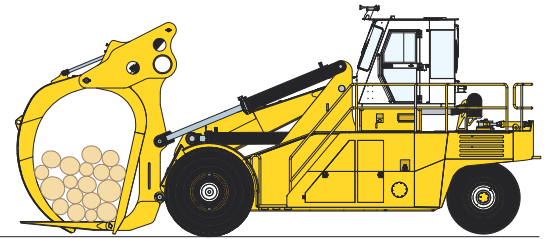

Figure 4-7-1 Ready to Spread
1. To unload the carriage for scaling or sorting, leave the carriage level or tilted slightly back. Lower the boom until the carriage is as close to the ground as possible (See Figure 4-7-1).